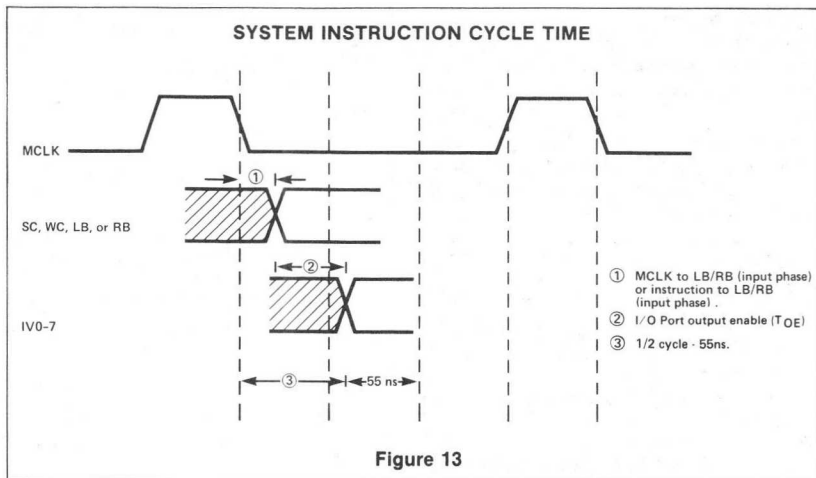

Figure 13
1. Instruction to LB/RB (input phase) and I/O Port output enable: $T_{OE} \leq \frac{1}{2} \text{ cycle} - 55\text{ns}$ (Figure 13).